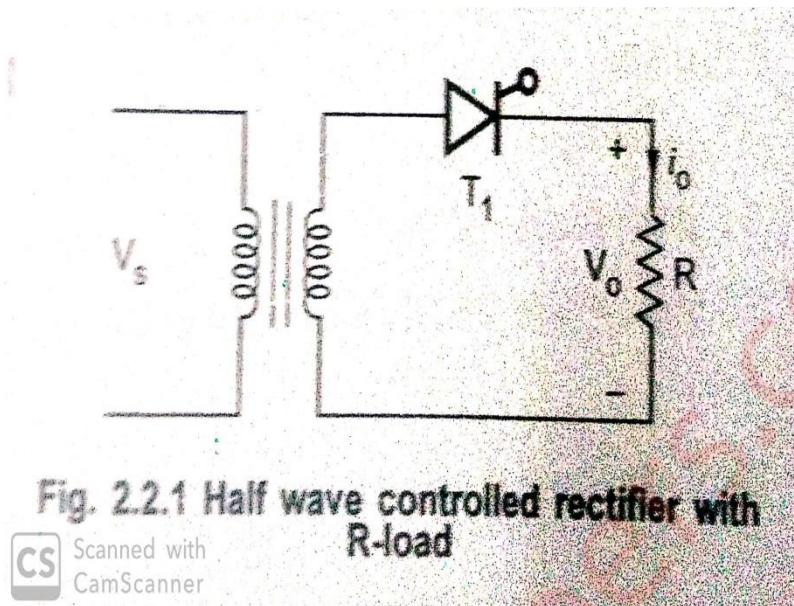

Fig. 2.2.1 Half wave controlled rectifier with R-load
1) The principle of phase controlled can be explained with the help of half wave controlled rectifier shown in Fig. 2.2.1